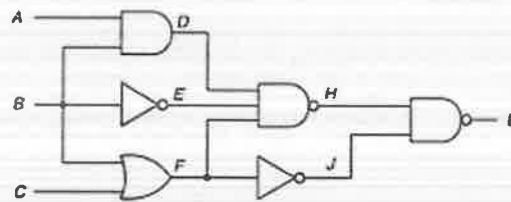
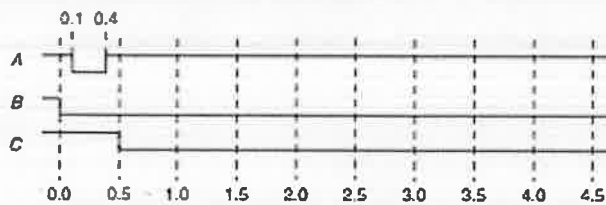

Fig. 1a
Fig. 1b
14. a) i. Apply event-driven simulation technique for the circuit given in Fig. 1a. Delay of two-input gates - 1 ns, Delay of three-input gates - 1.2 ns; Delay of inverter - 0.6 ns. Assume the inputs are changing as shown in Fig. 1b. Show all events and activity lists of each time stamp. Also draw the final waveform 10 K2 CO4